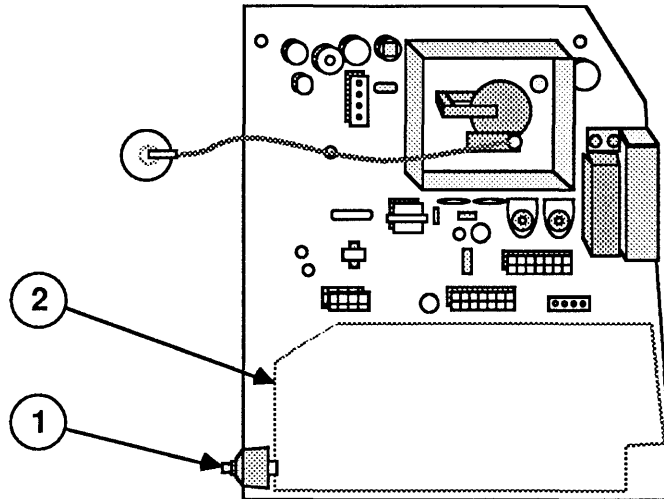

FIGURE 10
13. If you are returning the analog board to Apple, first remove the brightness knob (Figure 10, #1) and put the knob on the replacement analog board.
1. Place the power supply on the inside of the analog board, using the painted outline on the board as a guide (Figure 10, #2).